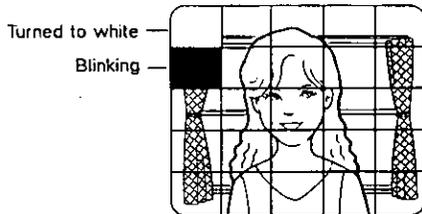

Fig. 52
- To mask other areas, move the cursor to the desired area by using the Up Button (AGC), Down Button (AWC), Left Button (WHT) or Right Button (GAIN). The previous masked area then stops blinking and turns to white as shown in Fig. 52.